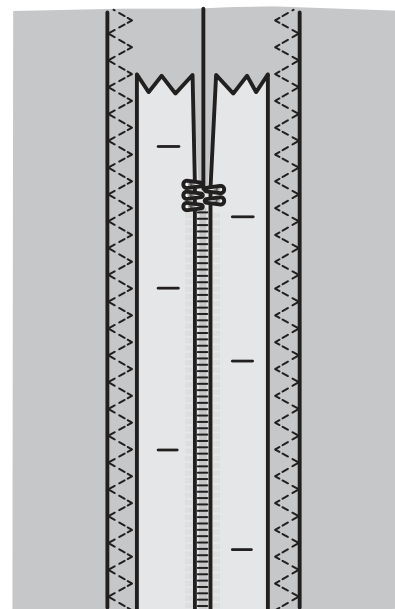

Fig. 1
2. Baste the remaining seam where the zipper will be placed. Press the seam open. Place the zipper right side to the pressed open seam allowance, placing the zipper stop at the notch. Pin the zipper on the right side so it stays in place (see fig. 1).